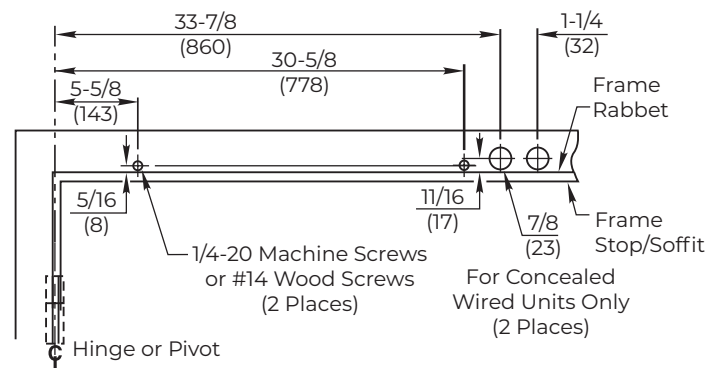

Figure 3 Left Hand Shown
3. Using template on page 14, prepare mounting holes for screws. (Figure 3)
- c. Drill/tap two (2) 1/4-20 holes for steel frame or two (2) #14 holes for wood frame at marked locations.
- c. Drill two (2) 7/8" diameter holes in frame at marked locations.
**For Metal Frame:** Use two (2) 1/4-20 x 1" flat head machine screws.
**For Wood Frame:** Use two (2) #14 x 1-1/2" oval head self-drilling screws.